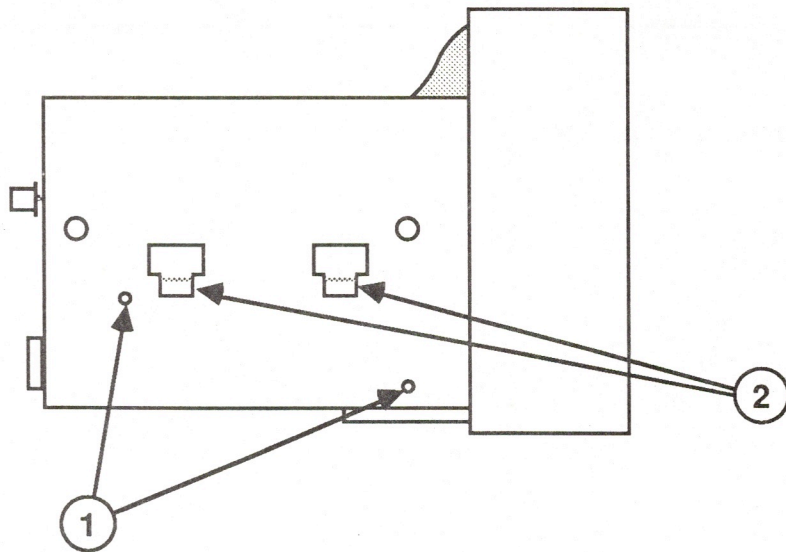

FIGURE 7
6. Unscrew the two screws on the outside of the chassis that hold the power supply in place (Figure 7, #1).
7. Lift the power supply up until the tabs on the side of the power supply (Figure 7, #2) are free of the corresponding chassis holes. Take the power supply out of the monitor and set it aside.
2. Slide the tabs on the side of the power supply into the holes in the side of the chassis (Figure 7, #2).
3. Replace the two screws that hold the power supply in place. The screw holes in the chassis are indicated by etched arrows (Figure 7, #1).